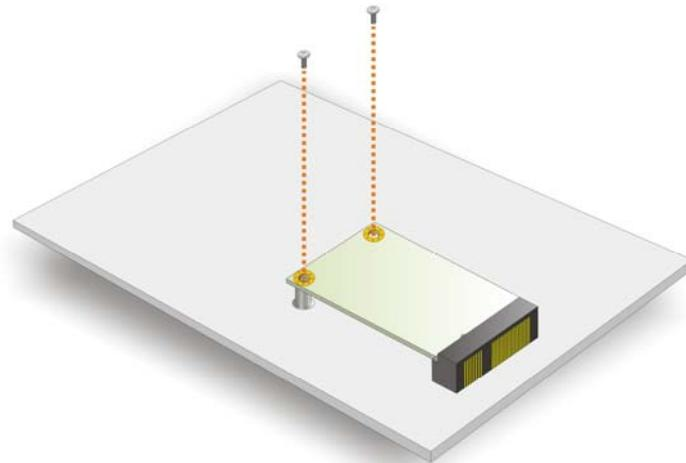

Figure 4-11: Secure the mSATA Card
Step 4: Secure the mSATA card. Secure the mSATA card with the retention screws previously removed (**Figure 4-11**).